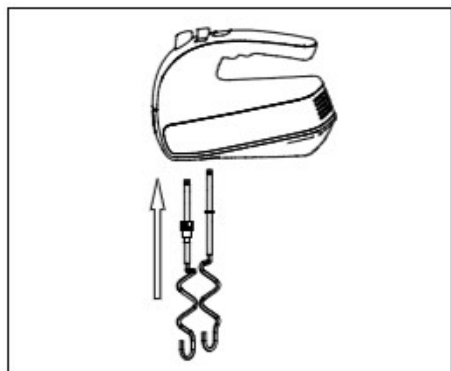

Fig. 1
- Insert beaters or dough hooks into the correct outlets and ensure the beater or dough hooks are securely locked in the correct position (Fig. 1 & Fig. 2)